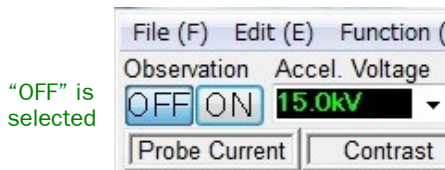

Fig. 33 ON and OFF buttons under Observation
16. On the SEM observation window, switch the Observation ON/OFF buttons to **ON**, and perform SEM observation. (Fig. 33)